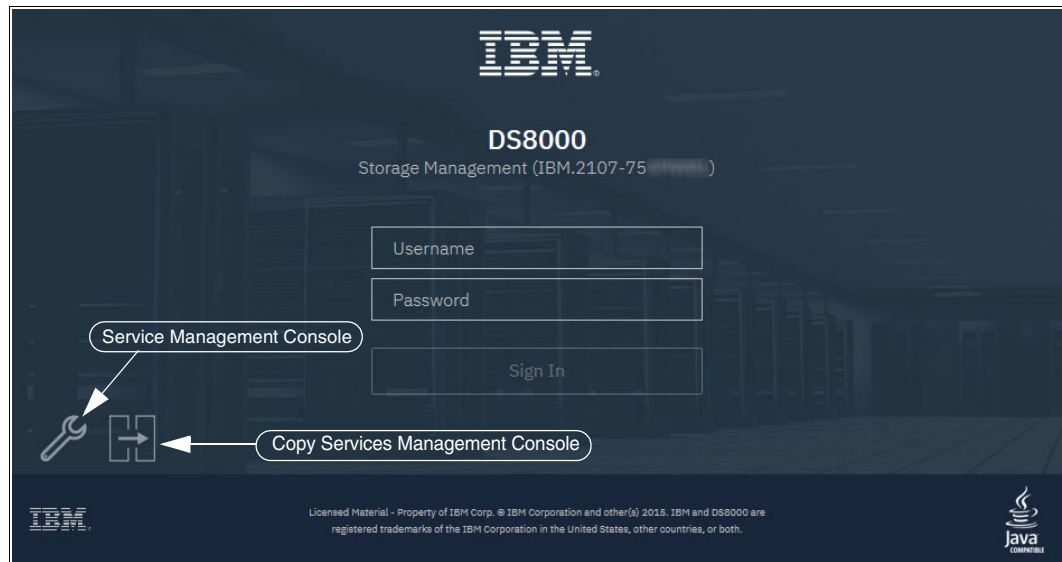

Figure 6-11 DS Storage Management GUI Login window
1. Start the Storage Management GUI, as shown in Figure 6-11. Click the **Service** icon (wrench) to access the Service MC.